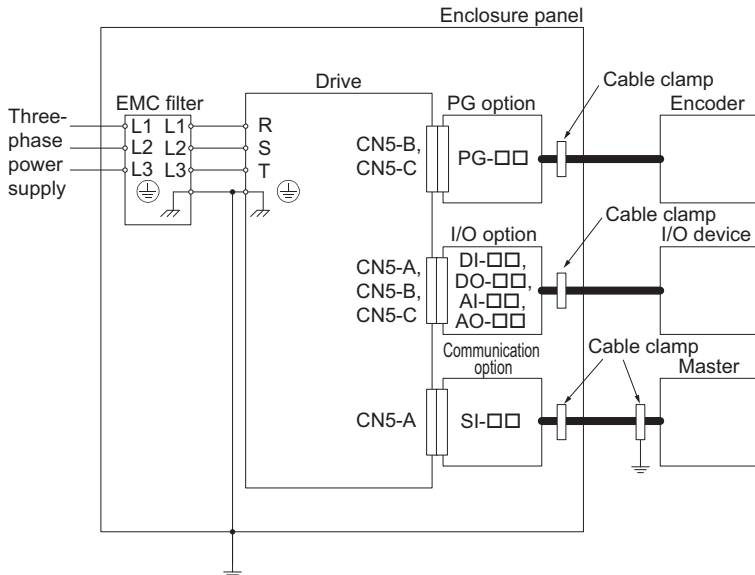

Figure 23 Option Installation for CE Compliance
2. Keep wiring as short as possible and ground the largest possible surface area of the shield to the metal panel according to Figure 23.